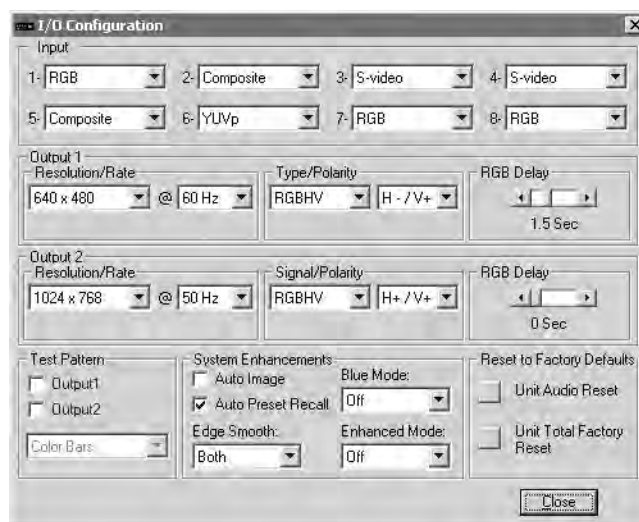

Figure 33. Control Program I/O Configuration Window
5. If desired, on the task bar click **Tools > I/O Configuration** to configure the video inputs and outputs in the I/O configuration window (see figure 33).